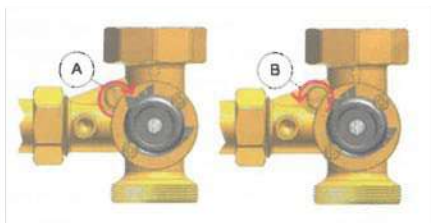

Fig. 18: Bypass setting for mixing valve
The mixing valve has an integrated bypass that is closed as standard (Fig. 18, Position A).
3. Open the bypass adjustment screw (Fig. 18, position A, 0% closed) by turning it clockwise 90° (Fig. 18, position B, 100% open).